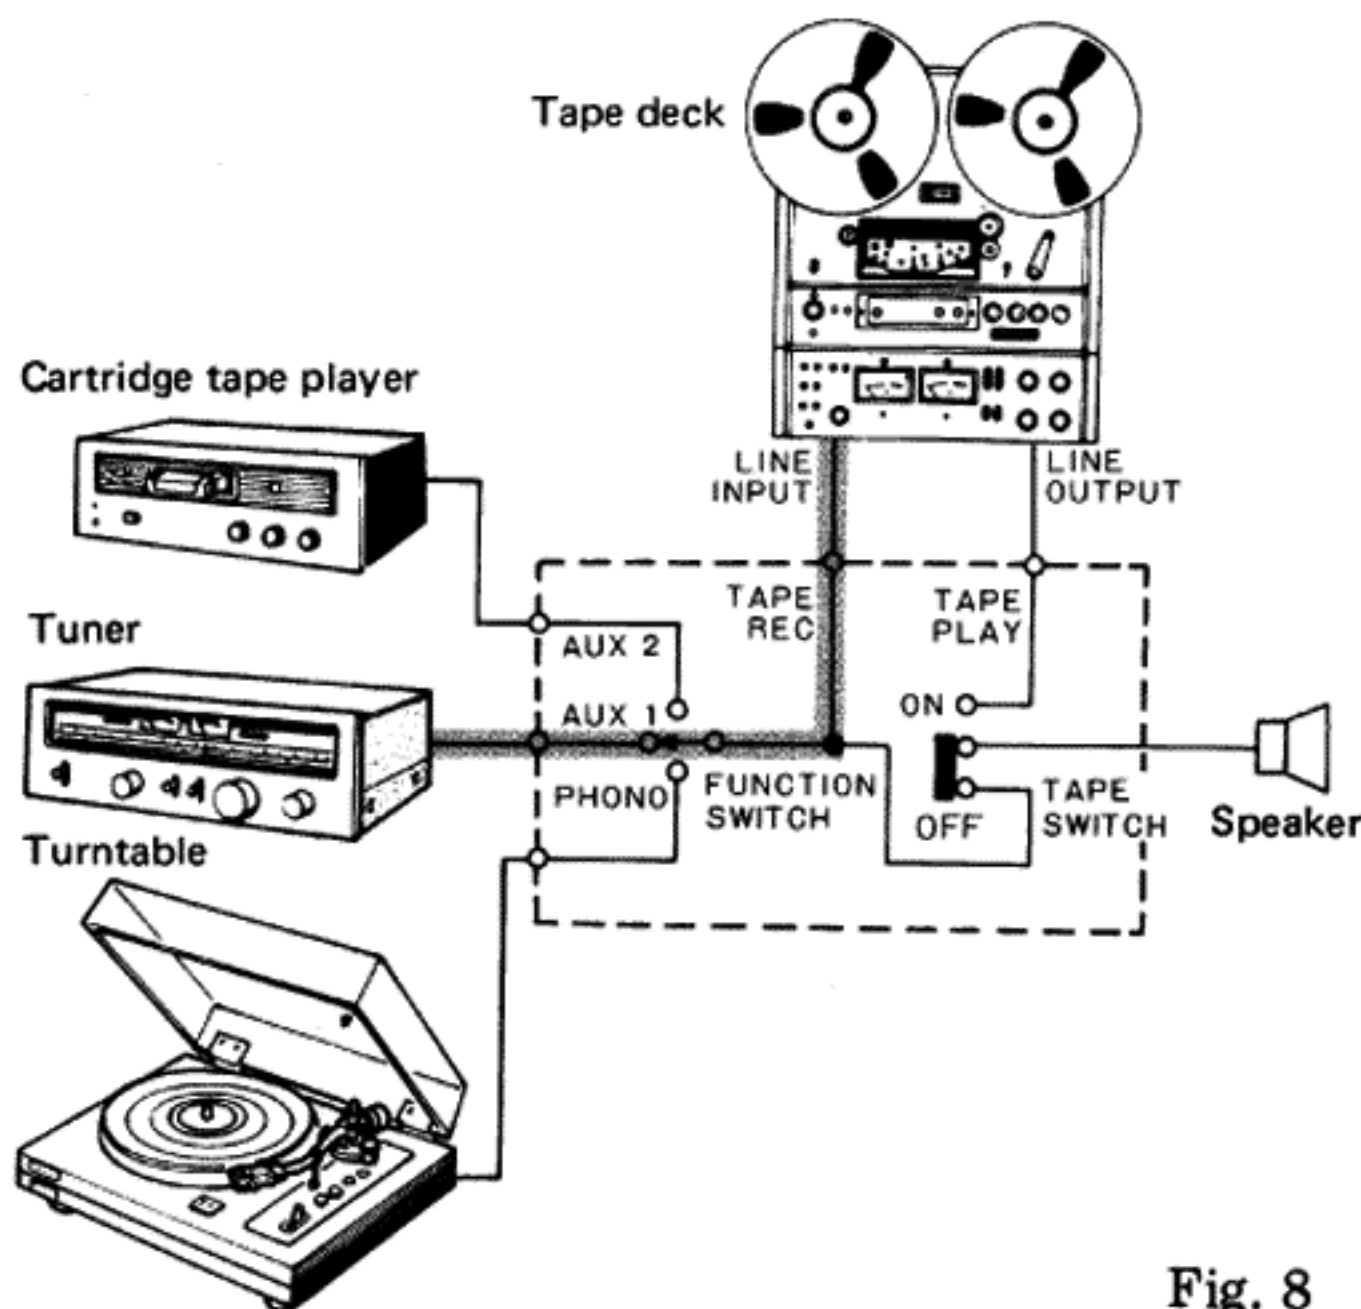

Fig. 8
1. Set the FUNCTION switch in accordance with the program source (record or FM broadcast) you want to record (Fig. 8).